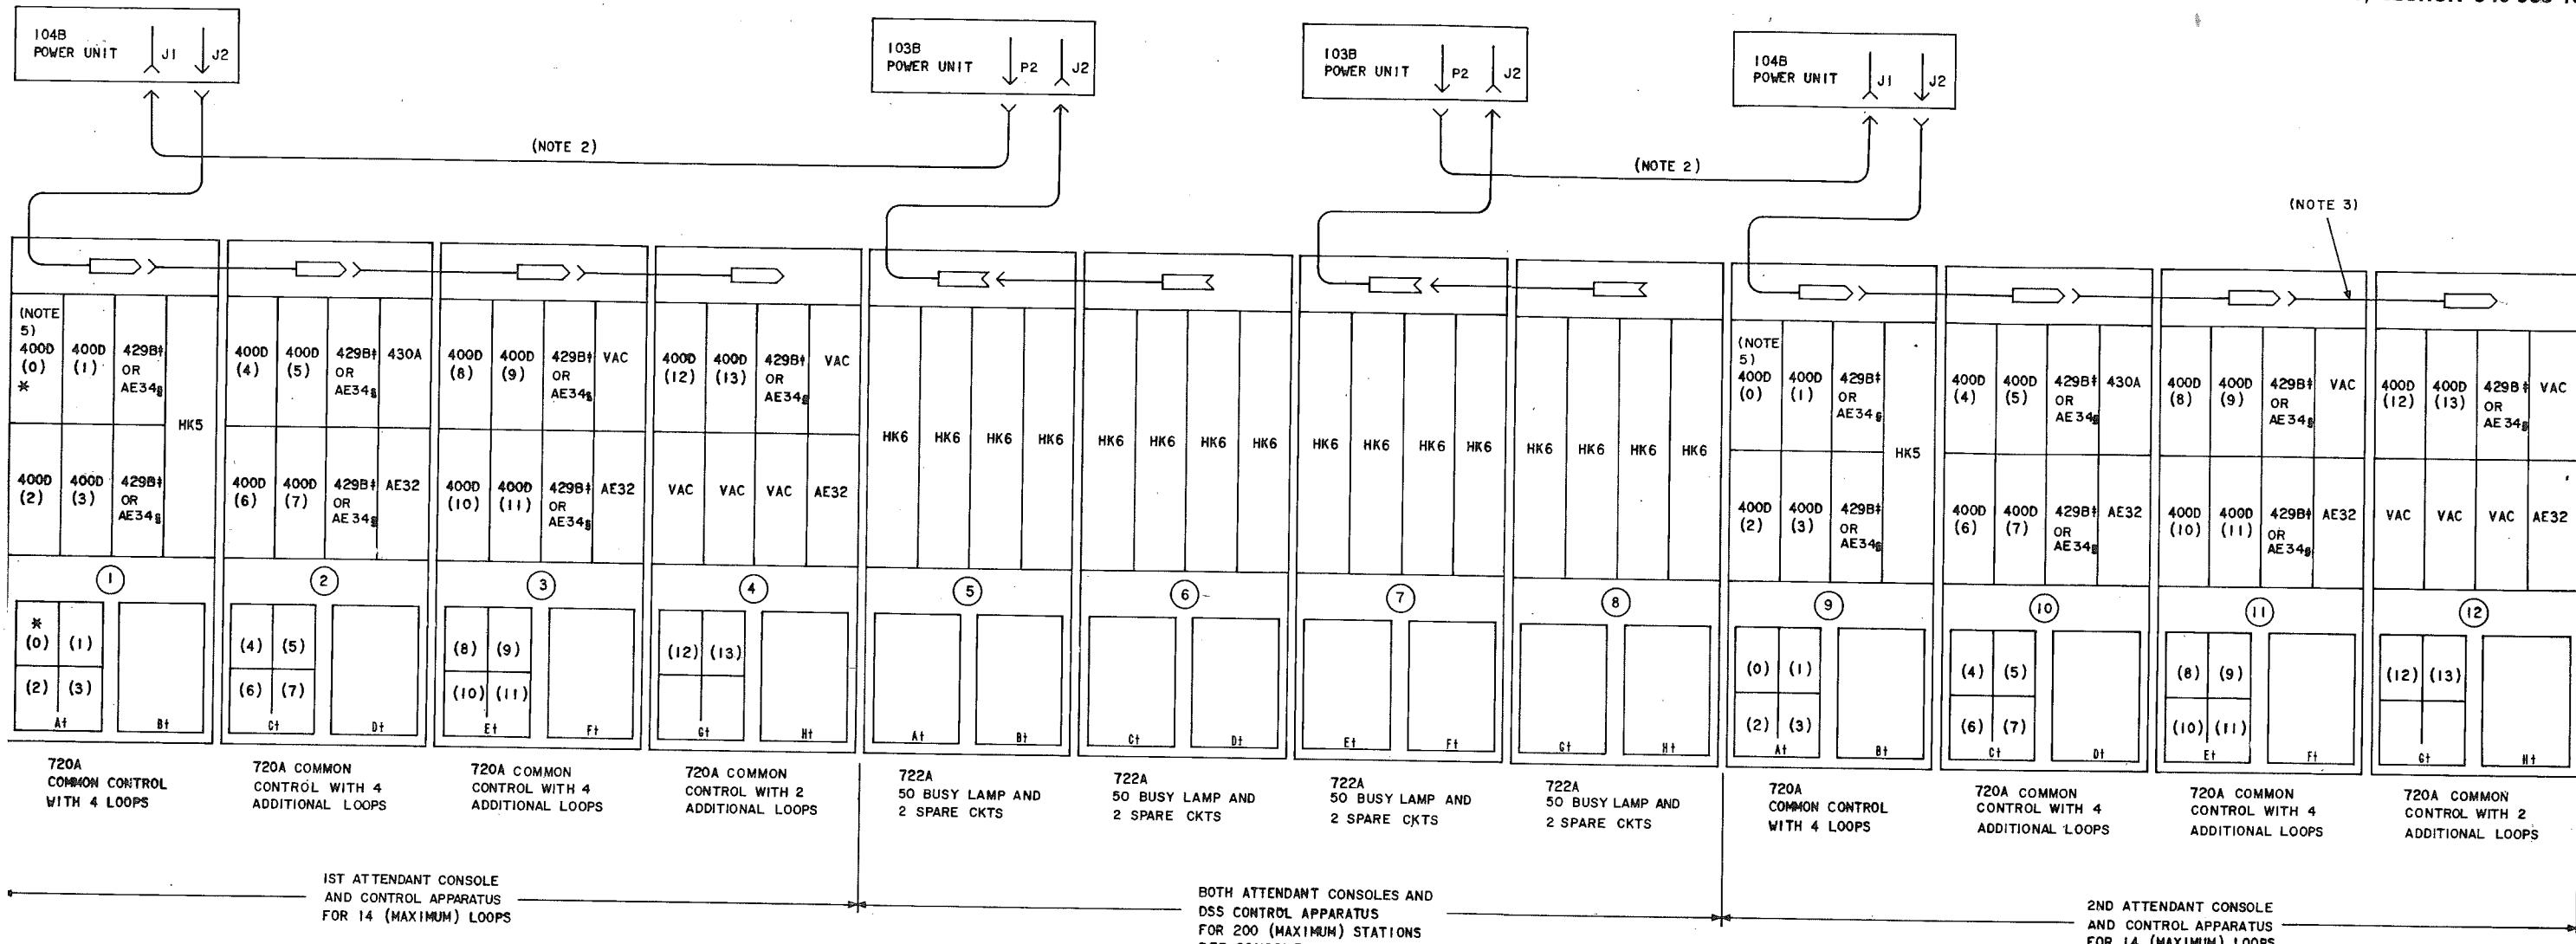

Fig. 10—Arrangement of Wall-Mounted Apparatus for Two Telephone Consoles (14 Loops Each) and 200-Station DSS (Maximum)
- 3.01** Select a wall location (Fig. 10) for mounting apparatus that complies with the following:
- 3.05** Mount required modular panels to provide desired services. Use dimensions shown in Fig. 11 as a guide. Horizontal dimensions vary with system requirements. Install separate groups of 720A panels when two consoles are provided. The 722A panels are common to both consoles. Refer to Fig. 10 which shows the largest size systems with two consoles and DSS.
- 3.12** If battery reserve (104B power unit) is provided, interconnect the 720A panels as described in 3.11 except attach cable assembly of the last 720A panel on the left to plug J2 on the 104B power unit (Fig. 10). Connect the 2-foot B25A connector cable (furnished) from connector J1 of the 104B power unit to plug P2 on the 103B power unit. Interconnect 722A panels to the left and to the 103B power unit.